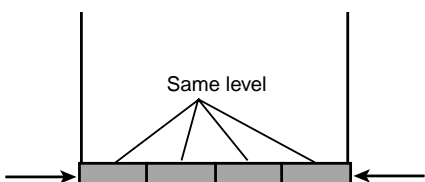

Figure 8. Sub Color
9. Set the data with numeric keys 5 -0 for waveform shown in Figure 8 (Flat Waveform).